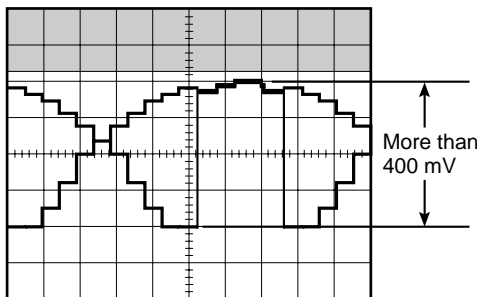

Fig. 5-4
- Open the Lens Iris so that only 11th portion of the CCD OUT signal saturates, and confirm that the saturated signal level is more than 400 mV as shown in Fig. 5-4.
- Confirm that the saturated signal level is more than 400 mV as shown in Fig. 5-4, if not satisfied readjust VR7.
- Confirm that the saturated signal level is more than 400 mV as shown in Fig. 5-4.
- Open the Lens Iris so that only 11th portion of the CCD OUT signal saturates, and confirm that the saturated signal level is more than 400 mV as shown in Fig. 5-4, if not readjust VR6.